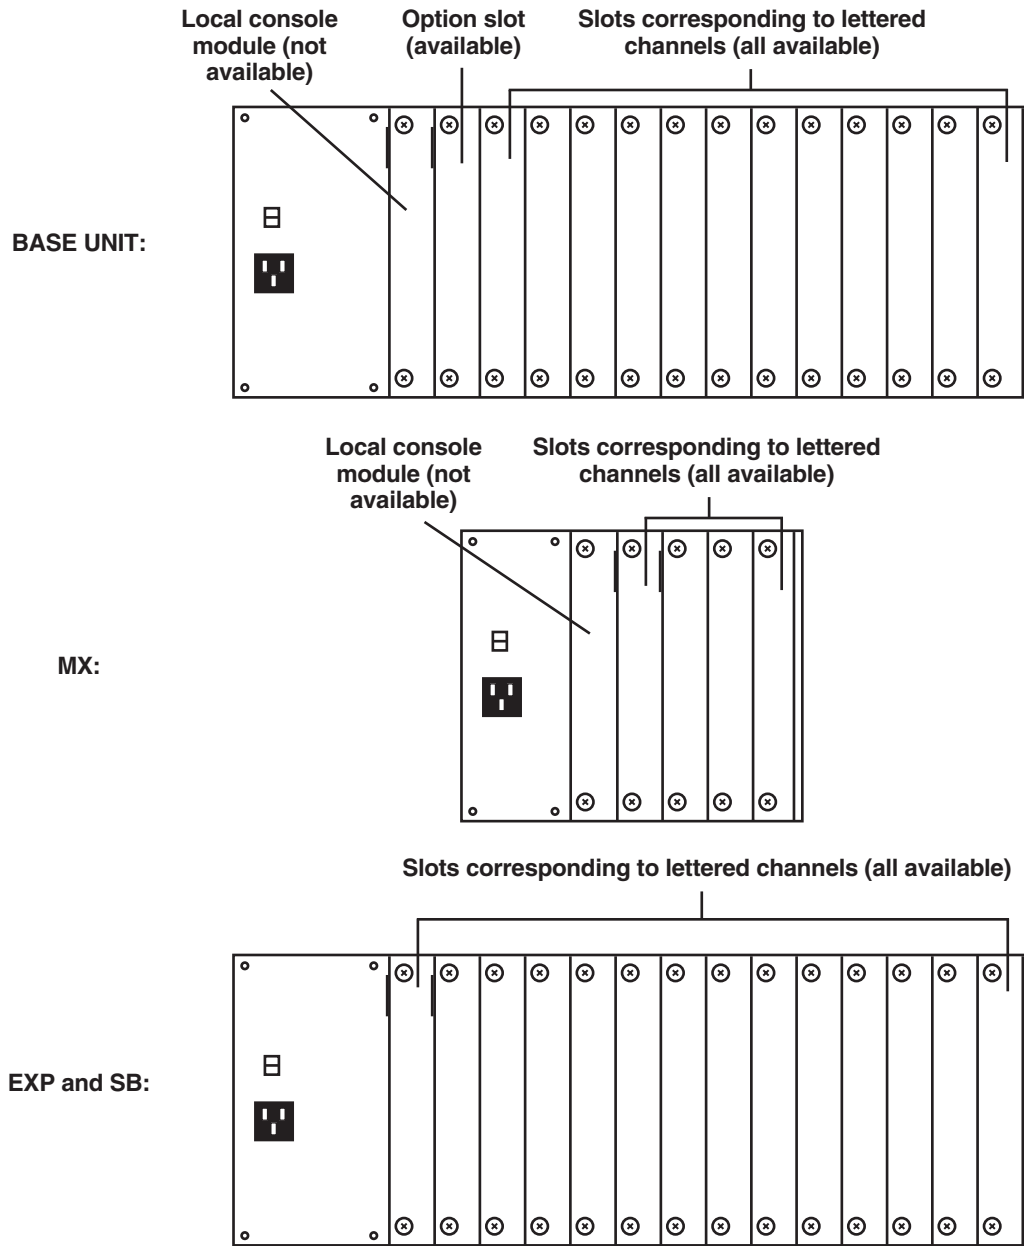

Figure 3-3. The ServSwitch Multi rear panels (as shipped from the factory).
1. Position the ServSwitch Multi so that its rear panel is facing you, as shown in Figure 3-3 on the next page. Choose an available slot. In most cases, any slot that is covered with a blank (connectorless) panel will be available. However, note that on the Base Unit and MX, the local-console module on the far left end of the Switch’s rear panel is covered by a blank panel but is not an available slot; no ServSwitch Multi Card of any type can be installed in that slot. Remember that the option slot (the slot just to the right of the local-console module, which has no corresponding front-panel LED or pushbutton) is an available slot and should preferably host a User-Interface Card, Expansion Card, etc., rather than a CPU-Interface Card.